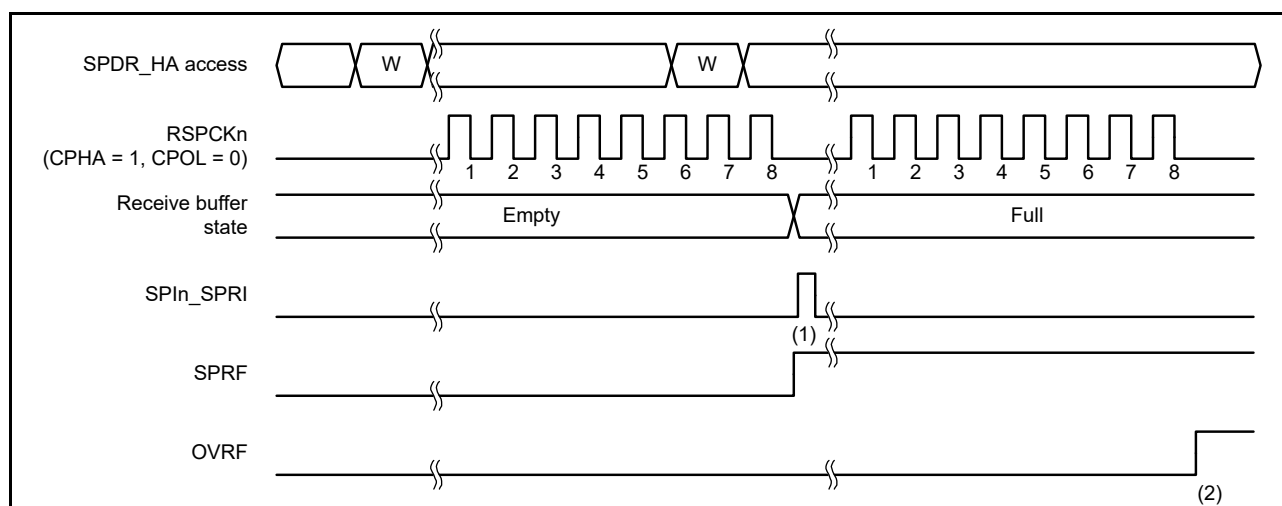
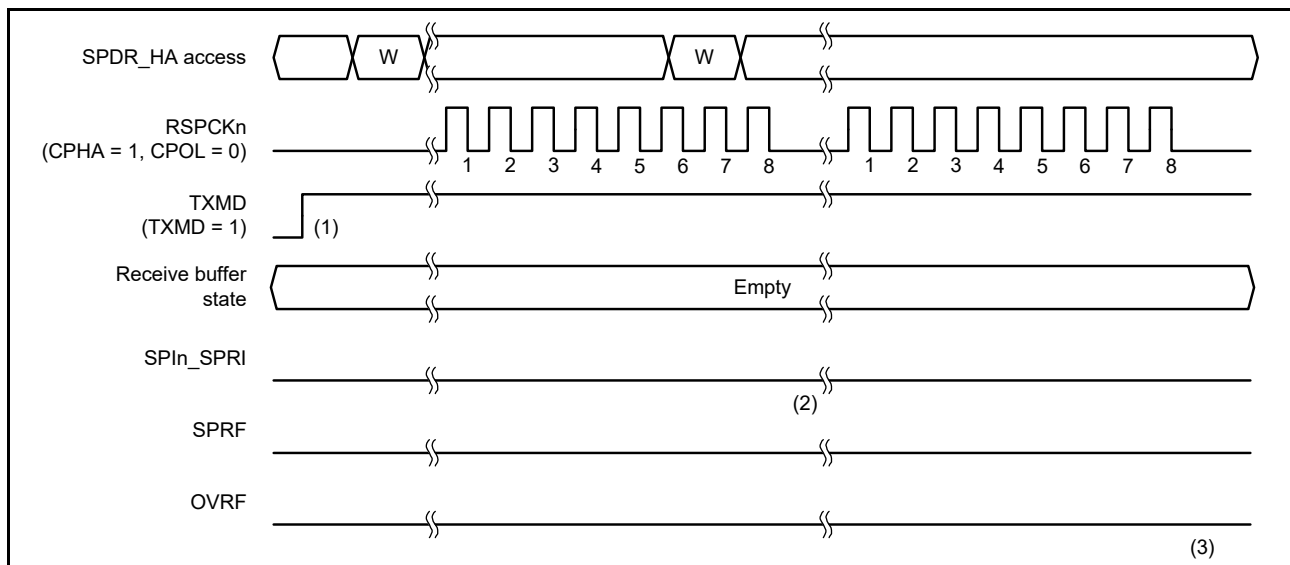

Figure 30.24 Operation example when SPCR.TXMD = 0
Figure 30.25 Operation example when SPCR.TXMD = 1
Full-duplex synchronous serial communications or transmit operations can only be selected by the communications operating mode select bit (SPCR.TXMD). The register accesses shown in Figure 30.24 and Figure 30.25 indicate the condition of access to the SPDR/SPDR_HA register, where W denotes a write cycle.
Figure 30.24 shows an example operation where the Communications Operating Mode Select bit (SPCR.TXMD) is set to 0. In the example, the SPI performs an 8-bit serial transfer in which the SPCMD0.CPHA bit is 1 and the SPCMD0.CPOL bit is 0. The numbers given for RSPCKn in the waveform represent the number of RSPCK cycles, such as the number of transferred bits.
The operation of the flags at timings (1) and (2) in Figure 30.24 is as follows:
Figure 30.25 shows an operation example where the Communications Operating Mode Select bit (SPCR.TXMD) is set to 1. In this example, the SPI performs an 8-bit serial transfer in which the SPCMD0.CPHA bit is 1 and the SPCMD0.CPOL bit is 0. The numbers given for RSPCKn in the waveform represent the number of RSPCK cycles, such as the number of transferred bits.
The operation of the flags at timings (1) to (3) in Figure 30.25 is as follows:
- (1) Make sure there is no data left in the receive buffer (SPSR.SPRF flag is 0) and the SPSR.OVRF flag is 0 before entering the transmit-only mode (SPCR.TXMD = 1).
- (2) When a serial transfer ends with the SPDR/SPDR_HA receive buffer empty, if the transmit-only mode is selected (SPCR.TXMD = 1), the SPSR.SPRF flag remains 0, and the SPI does not copy the data in the shift register to the receive buffer.
- (3) Because the SPDR/SPDR_HA receive buffer does not hold data that was received in the previous serial transfer, even when a serial transfer ends, the SPSR.OVRF flag remains 0, and the data in the shift register is not copied to the receive buffer.